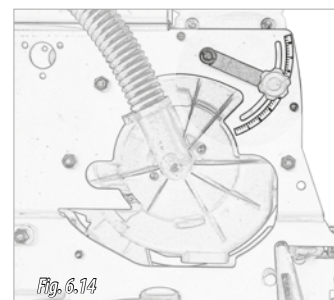

Fig. 6.14
4. Adjust the selector's lever position (Fig. 6.14) depending on the seed distribution inside the disc checked in the previous point. For a correct adjustment, see Fig. 6.15.